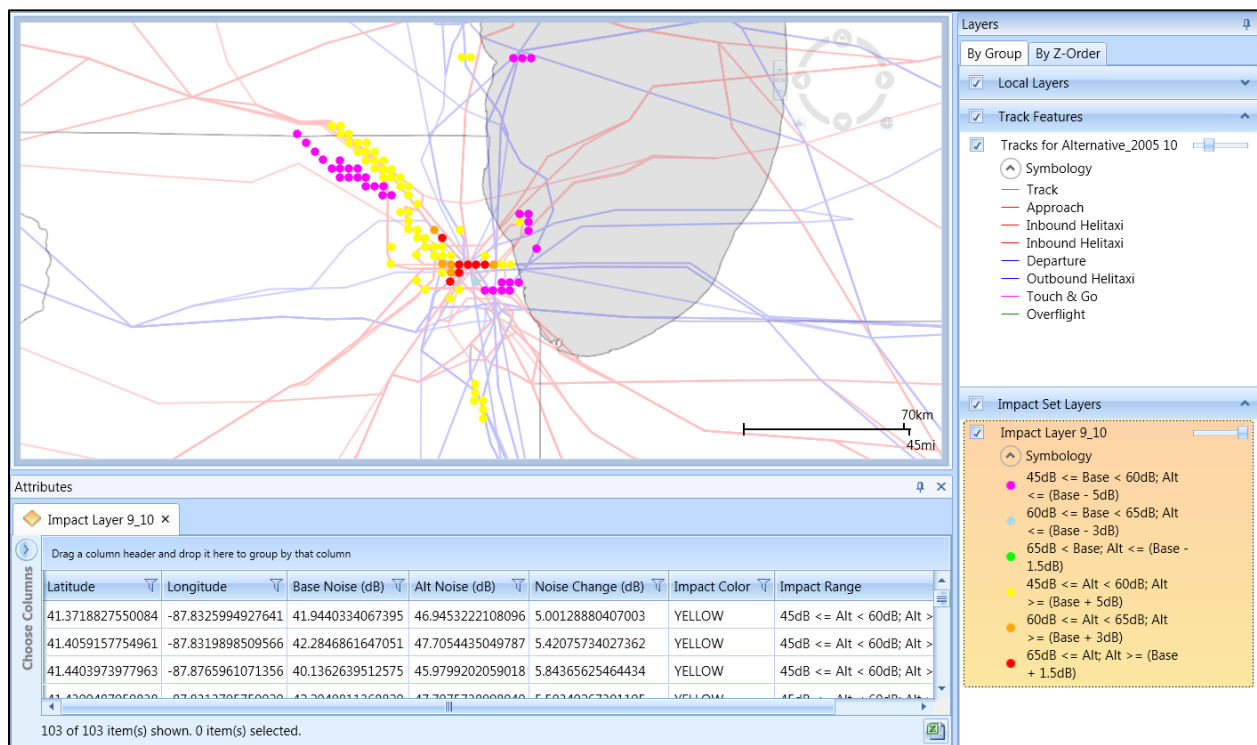

Figure 5-47 Sample Impact Set Layer with Attributes – Shown with Tracks
3. The Impact Set Layer is displayed on the map (Figure 5-47) and in the *Layers* manager.
The following attributes are available for Impact Set Layers: latitude, longitude, base noise, alternative noise, change in noise, impact color, and impact range (Figure 5-47). See Appendix B.3 for descriptions of the attributes.